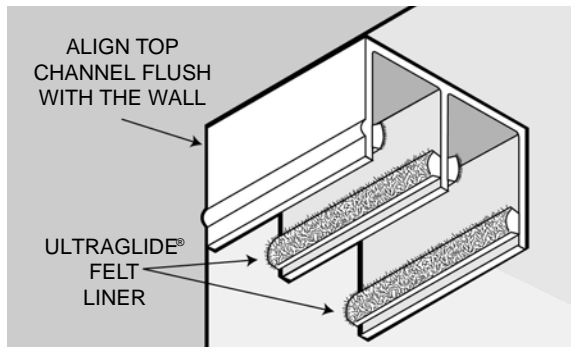

Figure 1
- When cut to proper length, install Top Channel (#2) up to the top front of closet opening making sure that the front of the Mirror Fascia on the Top Channel (#2) is flush with outside walls (See Figure 1). Hold up the Top Channel (#2) in the desired position and with your Pencil, mark where the pre-drilled holes are in the Top Channel (#2).